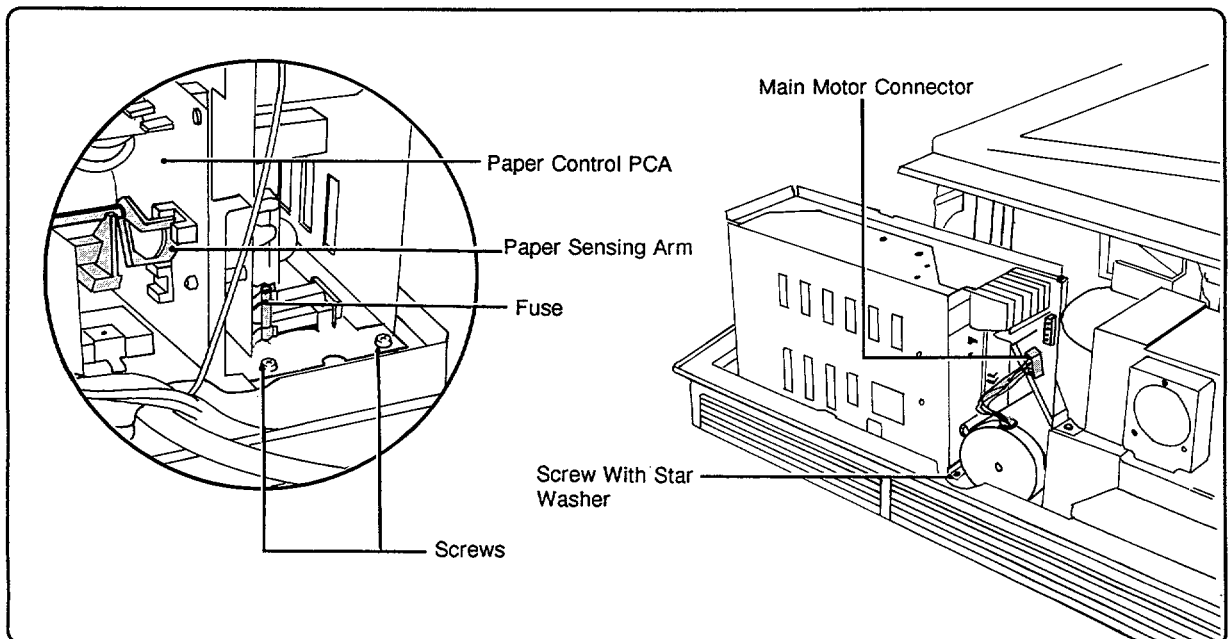

Figure 6-19. DC Power Supply Assembly
2. Remove the DC Power Supply Fuse (located in the lower left front corner of the DC Power Supply Assembly (see Figure 6-19). Be sure to replace this fuse with one of the proper value.
Use caution when replacing the assembly to ensure the connectors are properly aligned before securing it to the base plate. Be sure to install the mounting screw with star washer at its proper location at the rear of the assembly (see Figure 6-19).